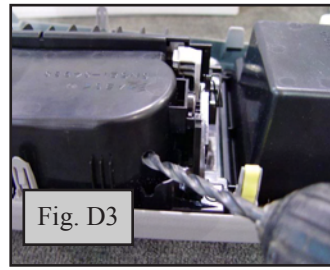

Fig. D3
- iv. Finally drill hole with a 9/32” drill bit. (Fig. D3)